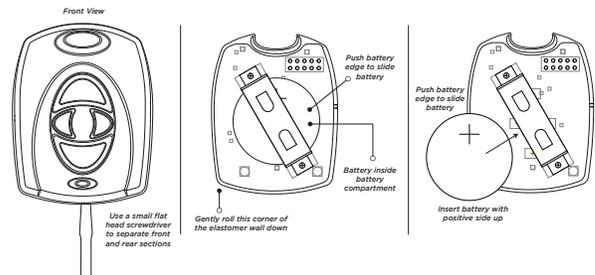

Figure 4: Battery Location
3. Gently roll the corner of the elastomer wall down then push and slide the old battery out of the holder in the direction of the arrow to remove it. See Figure 4.